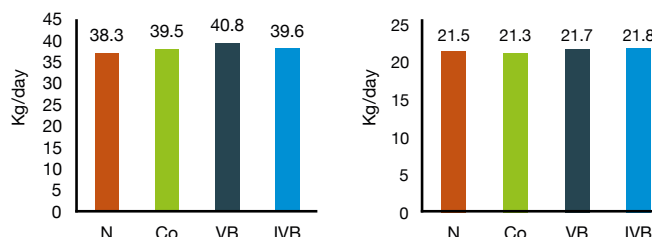

Figure 43. Effect of diets on milk yield (left) and dry matter intake postpartum (right)
- Supplementing the transition diet with Co, vitamin B12 or injecting with vitamin B12 does not affect milk yield or dry matter intake after calving (Figure 43)